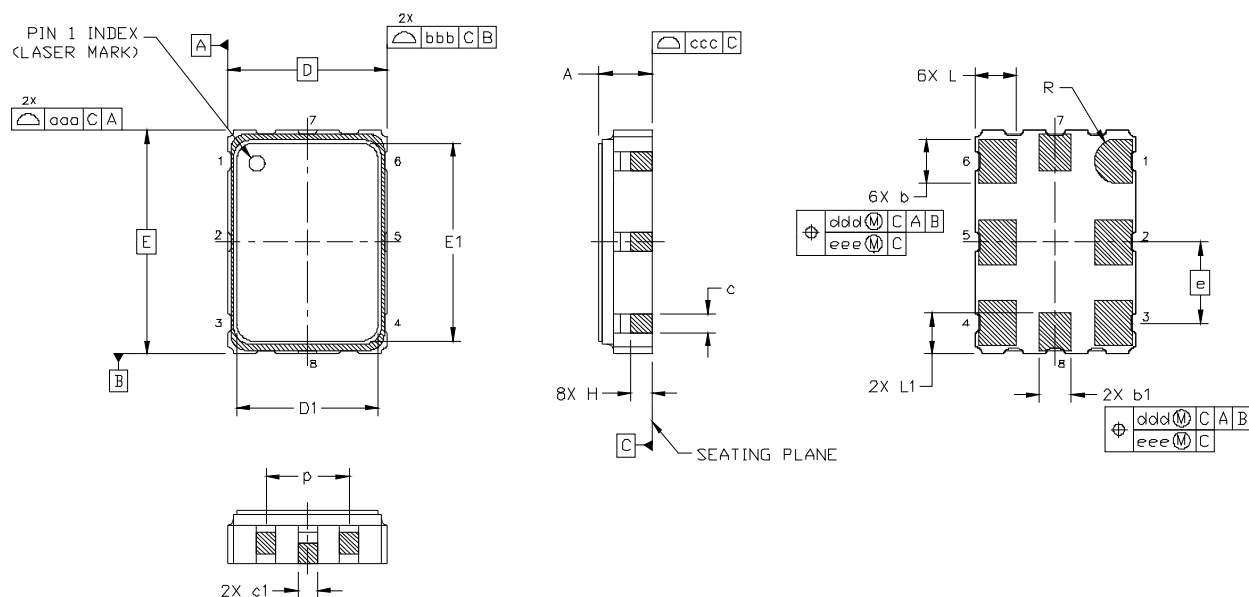

Figure 8. Si570/Si571 Outline Diagram
Figure 8 illustrates the package details for the Si570/Si571. Table 17 lists the values for the dimensions shown in the illustration.
- Updated Figure 8 and Table 17 on page 34 to include production test sidepads. This change is for reference only as the sidepads are raised above the seating plane and do not impact PCB layout.